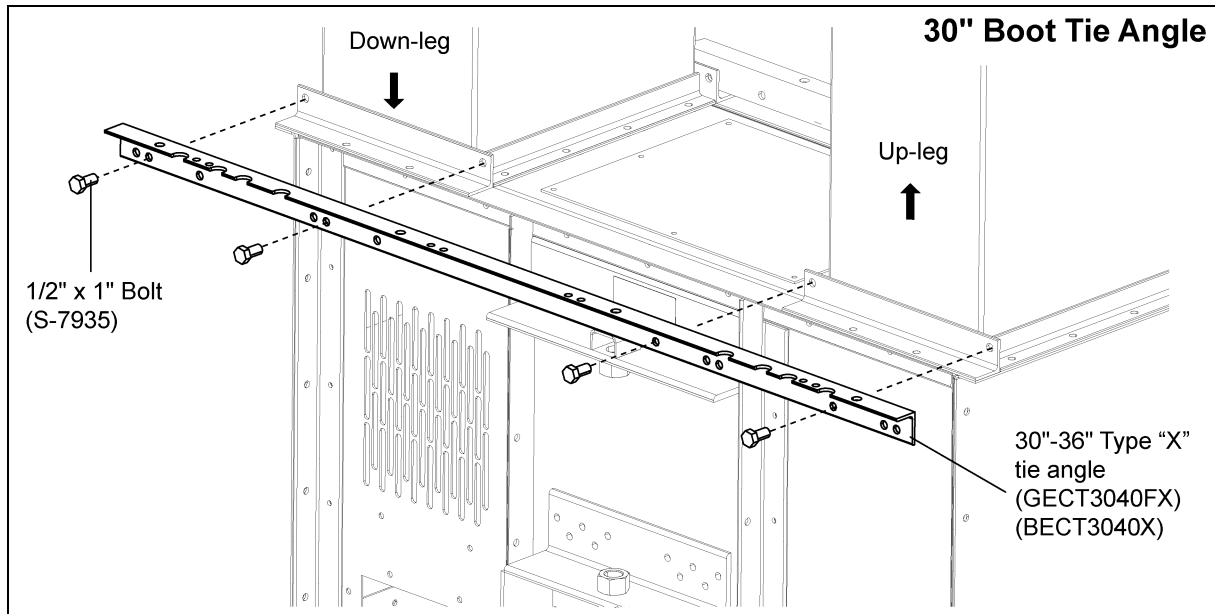
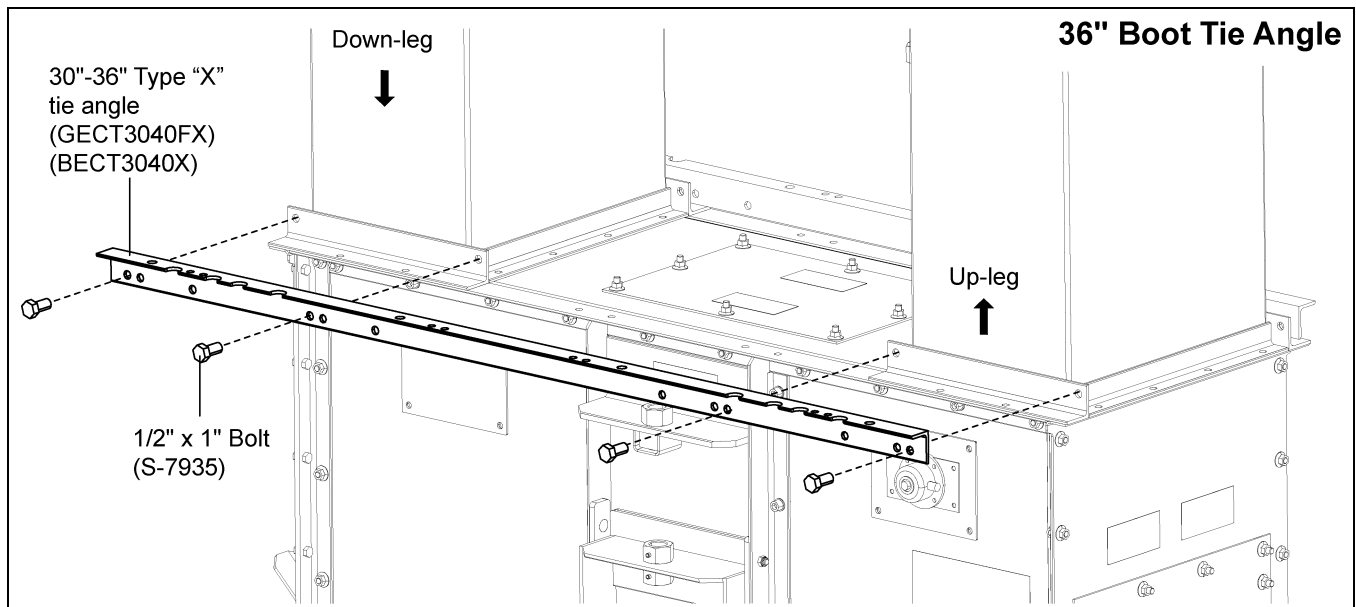

Figure 6A 30" Boot Tie Angle
Figure 6B 36" Boot Tie Angle
1. On the NON LADDER SIDE, attach tie angle to the trunking using 1/2" x 1" bolts. (See Figure 6A and Figure 6B.)
- a. **For 30" Boot Tie Angle:** With lip of tie angle up and outward, align tie angle so that it extends beyond the trunking at each end. (See Figure 6A.).
- b. **For 36" Boot Tie Angle:** With lip of tie angle up and outward, align both edges of tie angle to edges of trunking. Note the tie angle will not extend beyond the trunking. (See Figure 6B.)